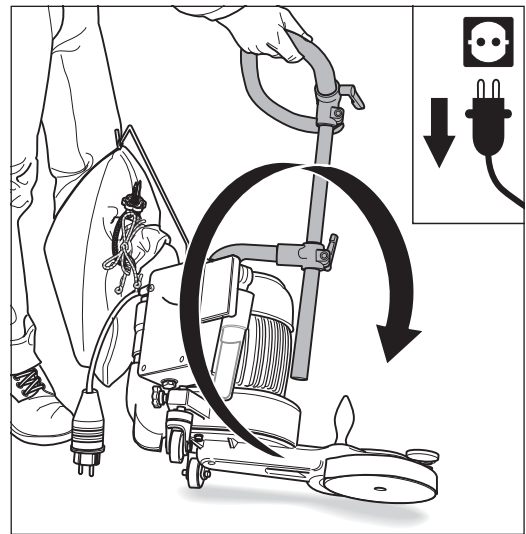
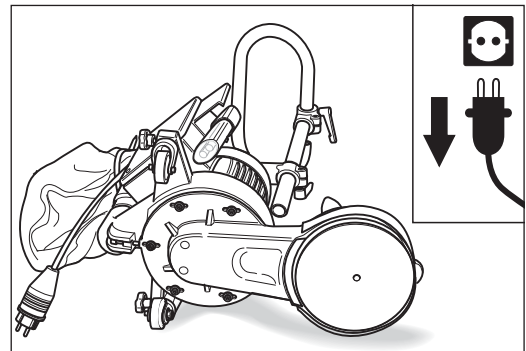

Fig. 78 Tilt the UNICO over to the **left-hand** side and set it down carefully.
Fig. 79 Place the UNICO down on the **left-hand** side only.
- 2 Place the UNICO on its side by grabbing the machine by the handlebar on the right-hand side and then tilt the machine over to the **left-hand** side (fig. 78) and set it down carefully. **Always** set the UNICO down on the **left-hand** side (fig. 79)! This will prevent damage to the floor.